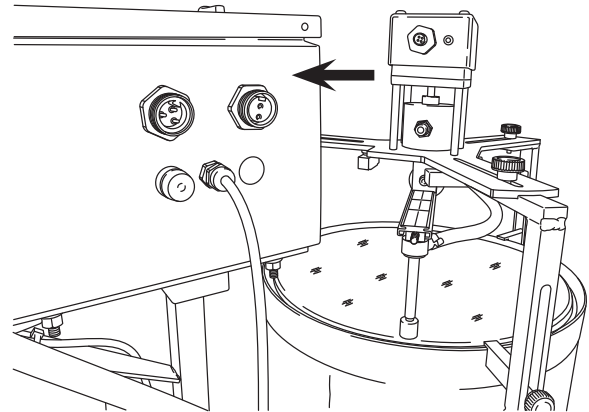

Figure 8
11. Position the fixture on top of the DPF with connecting receptacles pointing toward the control box. See Figure 8.